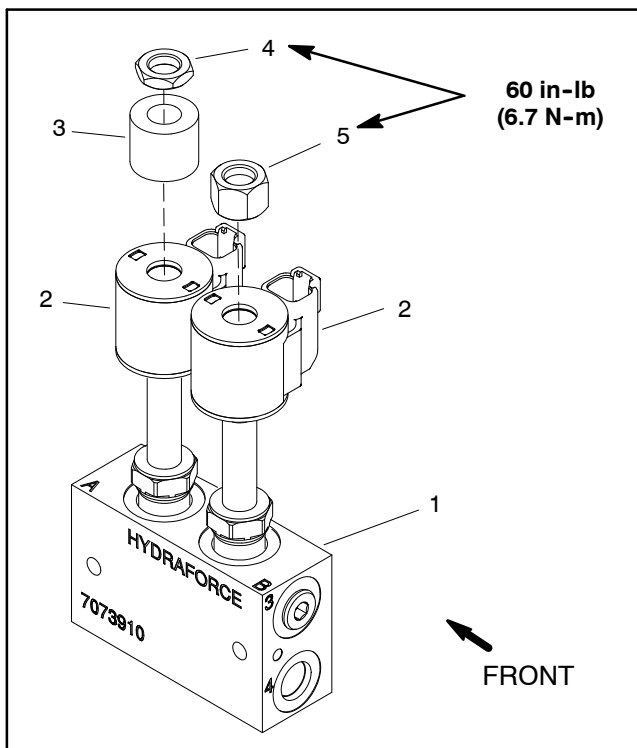
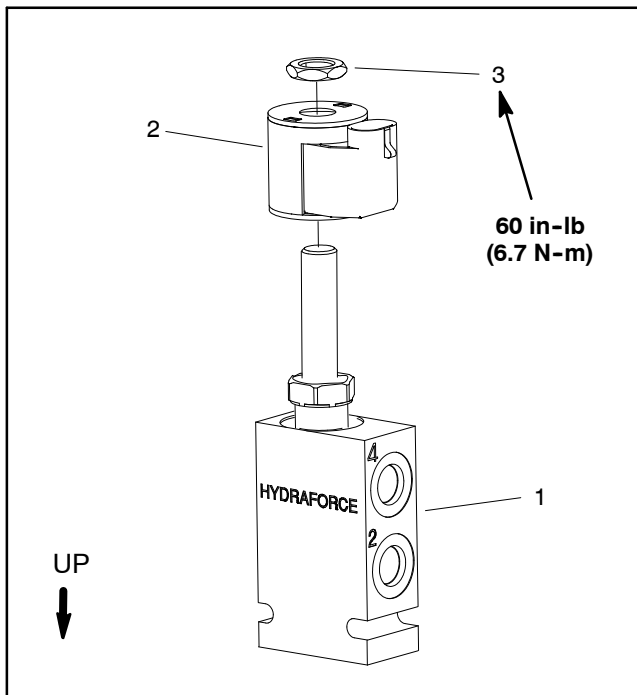

Figure 78
Figure 79
A hydraulic solenoid valve coil on the deck lift manifold (Fig. 78) or steering control manifold (machines with 4WD) (Fig. 79) can be replaced without opening the hydraulic system.
A. Raise and support operator seat to gain access to deck lift manifold. Refer to Figure 78 for solenoid coil locations on the deck lift manifold.
B. Raise and support operator seat to gain access to steering control manifold used on 4WD machines. Refer to Figure 79 for solenoid coil location on the steering control manifold.